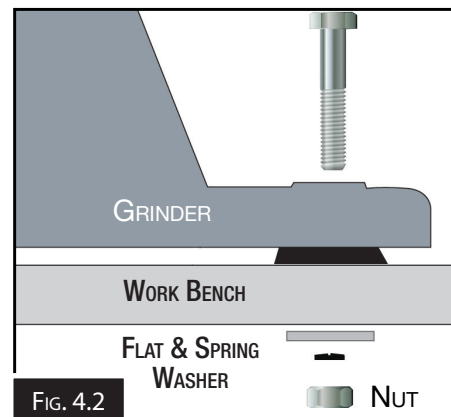

FIG. 4.2
2. Insert bolts through the holes, and tighten using flat and spring washers and nuts. (Fig. 4.2)